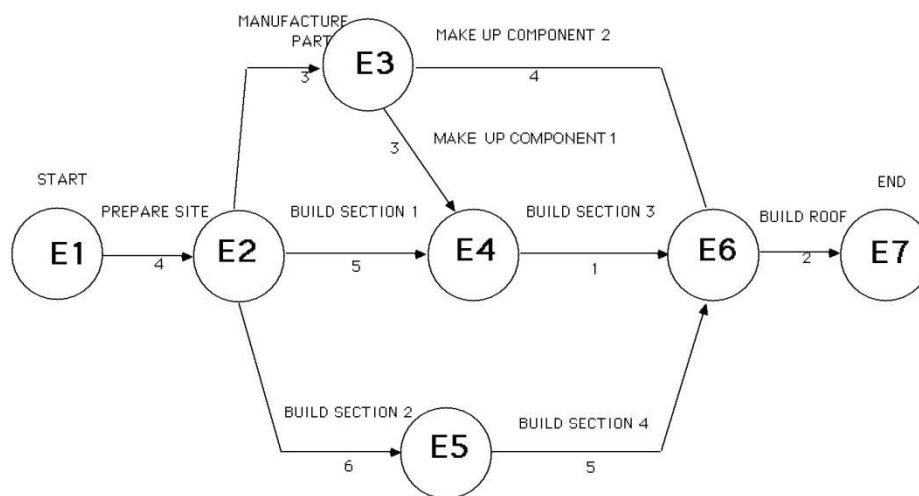

FIGURE 1 - EXAMPLE ARROW NETWORK OF NET 1
In the figure below BUILD SECTION 1 and MAKE UP COMPONENT 2 finish at event E4, is a name given to an event and is known as the identifier by their preceding event and succeeding event identifiers. Therefore, in Figure.1 the first activity is identified as E1-E2, its description is PREPARE SITE and it has duration of four (4) time periods. Events may also be given descriptive data. For example, event E1 can be described as START OF NET1. However, as previously stated an event cannot have duration.
An event is achieved when its preceding activities are completed. For example, in Figure 1 event E4 (COMPONENT 2) and E2-E4 (BUILD SECTION 1) are complete.
Accurate representation of the project by the network is very important, since the data that defines the network is the basis on which analysis is performed. The activities must be placed in logical work sequence, showing which may be worked at the same time. In Figure 1: MANUFACTURE PART A, BUILD SECTION 1 AND BUILD SECTION 2 can be worked at the same time but cannot start until PREPARE SITE has finished.